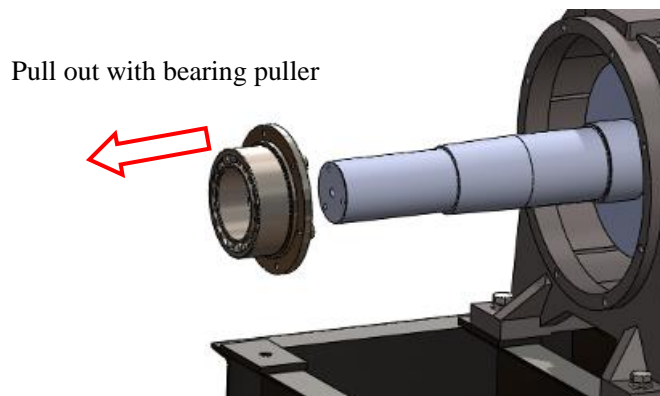

Figure 128: Remove bearing
8. Pull out the bearing with a bearing puller. (Cutting the bearing off is permissible.) See Figure 128.